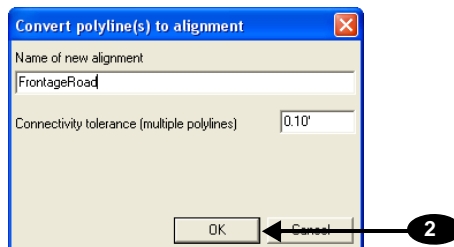

Figure 6-14. Set New Alignment Parameters
2. Enter a name for the new alignment and the connectivity tolerance for multiple polylines, then click **OK** (Figure 6-14). Selected polylines whose end points are within the tolerance from each other will be linked in the new alignment definition.